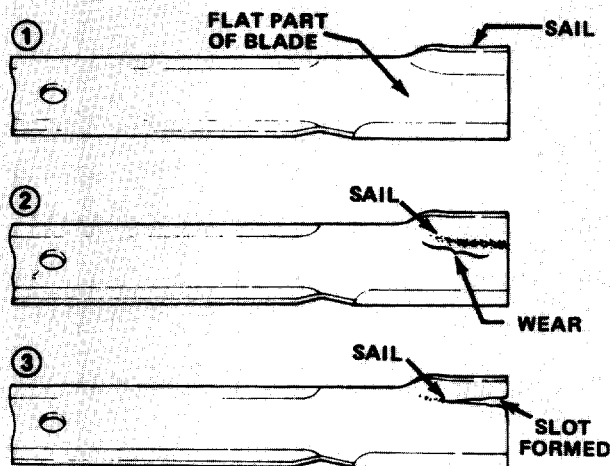

Figure 29
4. Check to make sure front height-of-cut pins are resting properly on frame cushions (Fig. 29). If pins are not resting properly, place a shim or shims under cushion to raise it for proper alignment.